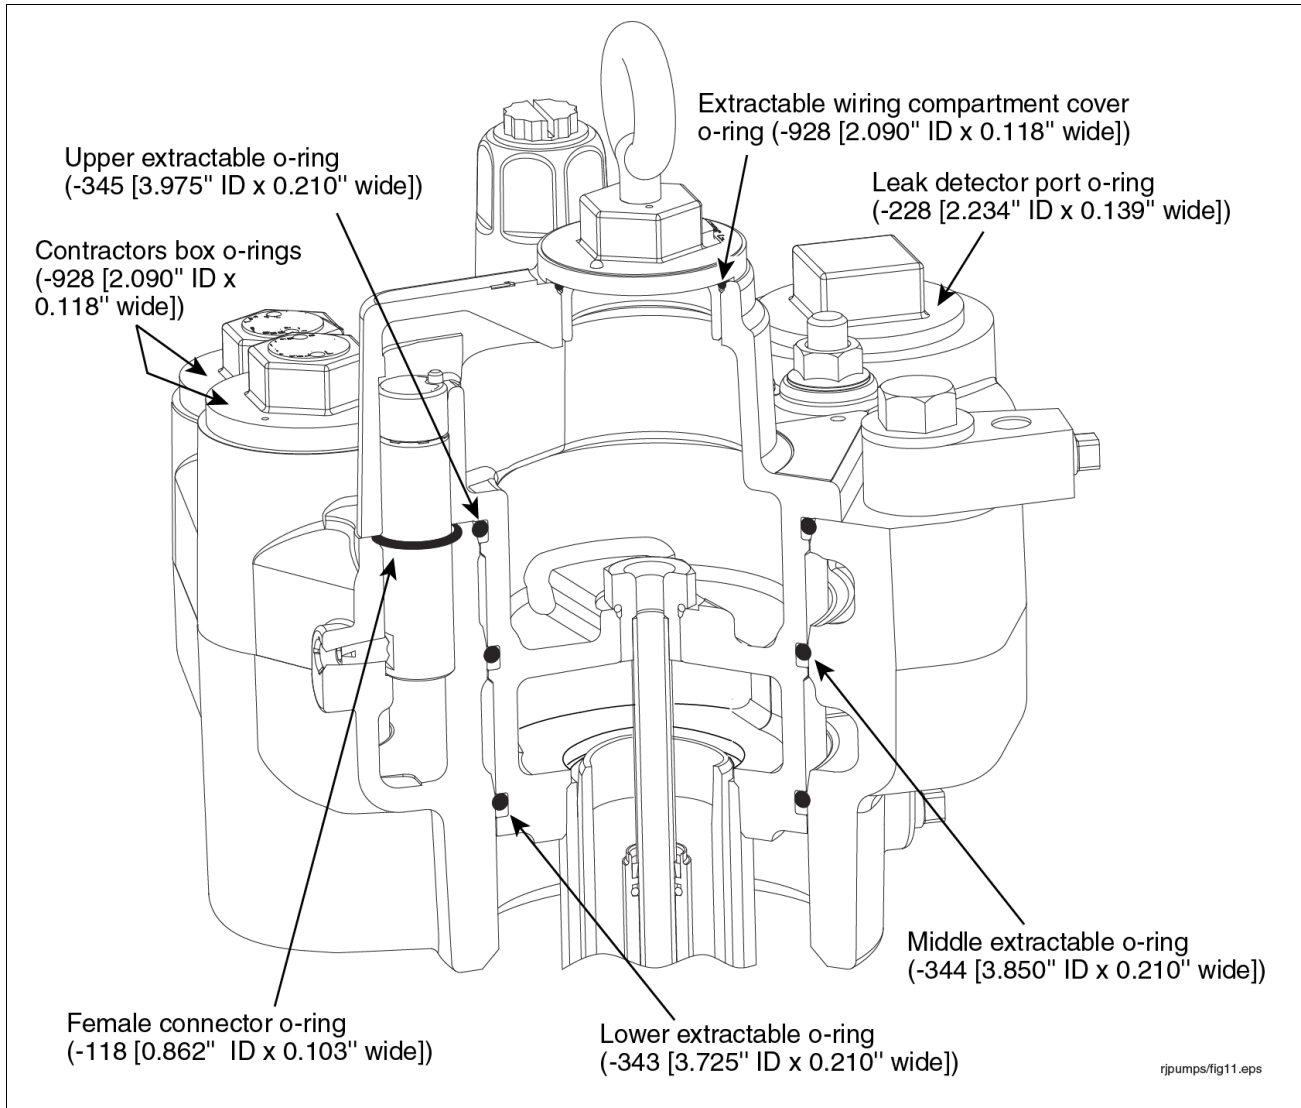

Figure 42. Locating Packer And Manifold O-Rings
9. Get the three extractable o-ring seals (3.975" ID x 0.210" wide [upper], 3.850" ID x 0.210" wide [middle], and 3.725" x 0.210" wide [lower]) from the hardware/seal kit. The three o-rings are very close in size so take extra care to distinguish each one before replacing them in the extractable. Lubricate each o-ring with petroleum jelly and then install them in their assigned grooves in the extractable (see Figure 42).
10. Remove the manifold's female connector's o-ring (see Figure 42). Get a 0.862" ID x 0.103" wide o-ring from the kit and lubricate it with petroleum jelly. Slide the o-ring over the female connector and push it down into its groove.